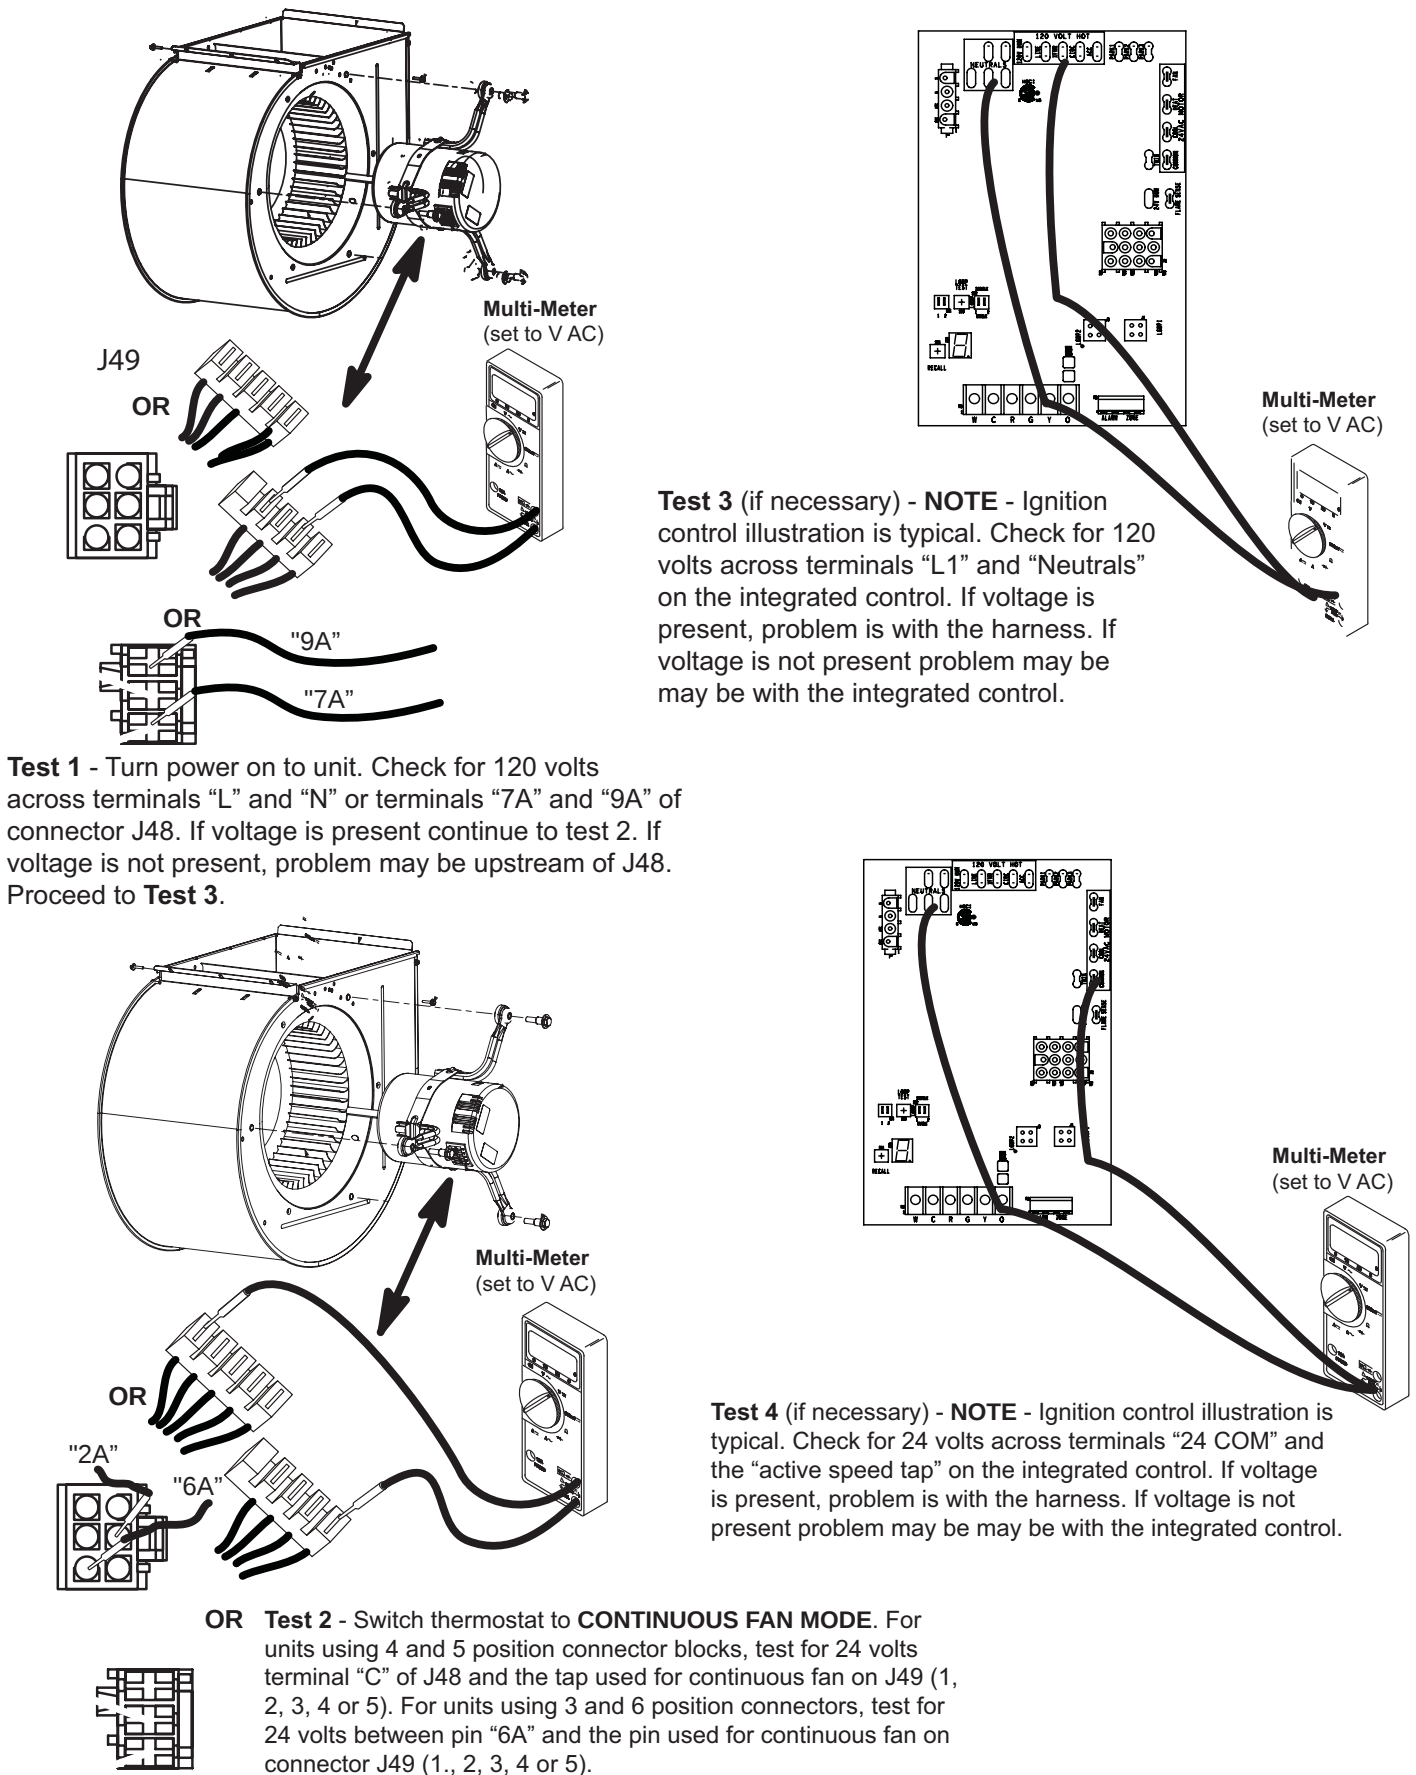

Figure 14.
2. Remove input plugs J48 and J49 from motor. See **Figure 14** for troubleshooting procedure.